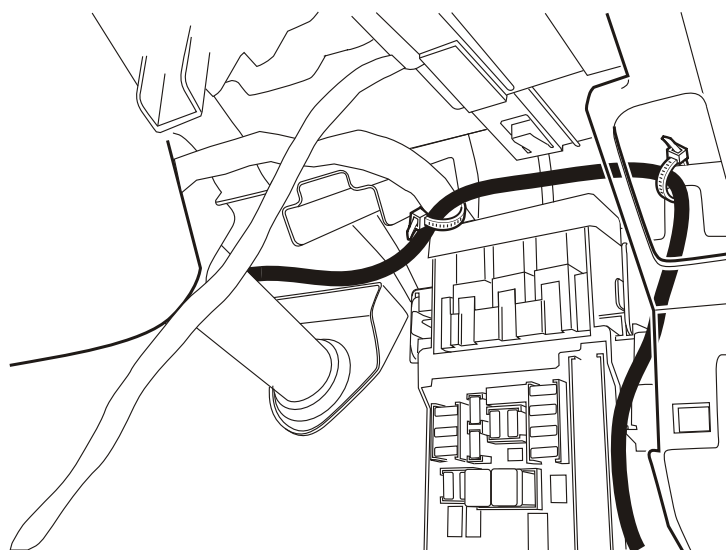

Figure 24
39. Pass the canopy power harness over the top of the steering column, across the top of the fuse box and down the side of the vehicle. Cable tie the harness to the vehicle body harness and the fuse box support bracket. Refer to figure 24.